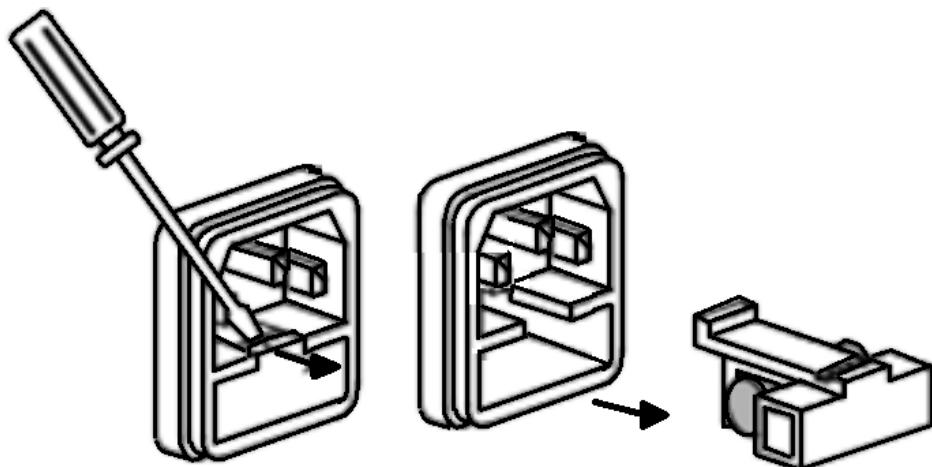

Figure 2.1 Fuse Removal
Step 2. Insert a small flathead screwdriver into the fuse box slit to slide out the fuse box as illustrated in **figure 2.1**.